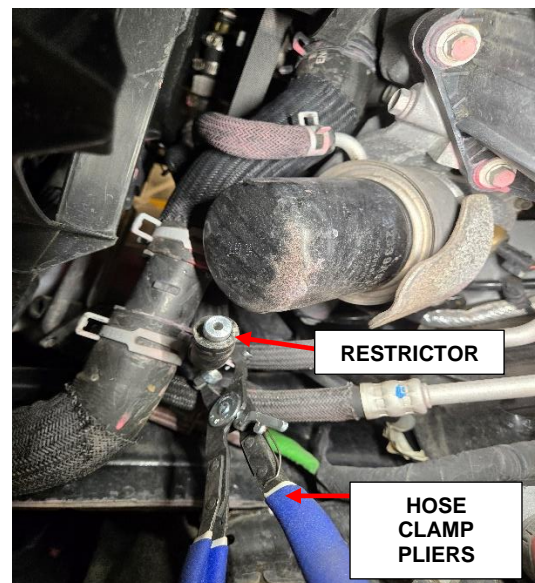

Figure 4 – Restrictor Installation
10. Insert the restrictor into the coolant hose (Figure 4).